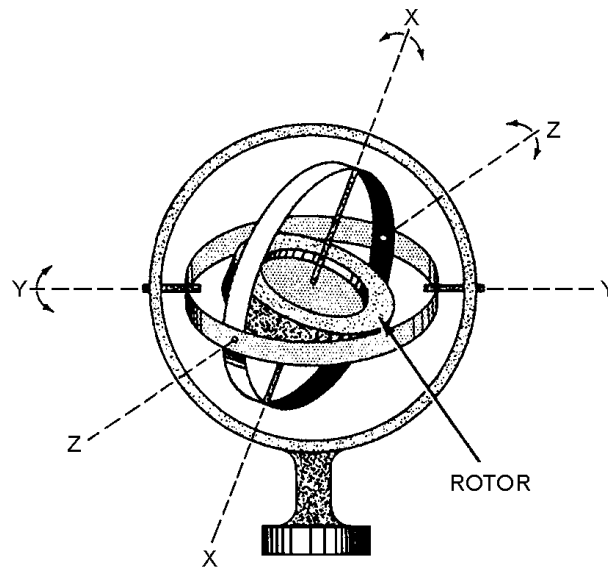

Figure 3-1.—Gyro model, universally mounted.
Any rapidly spinning object—a top, a wheel, an airplane propeller, or a spinning projectile—is fundamentally a gyroscope. Strictly speaking, however, a gyroscope is a mechanical device containing a spinning mass that is universally mounted; that is, mounted so it can assume any position in space. Figure 3-1 shows a model of a gyro. As you can see, a heavy wheel (rotor) is mounted so that its spin axis is free to turn in any direction. The wheel spins about axis X; it can turn about axis Y, and it can turn about axis Z. With this mechanical arrangement, the spinning wheel can assume any position in space.
- Q-2. In the drawing in figure 3-1, which axis is the gyro spin axis?*